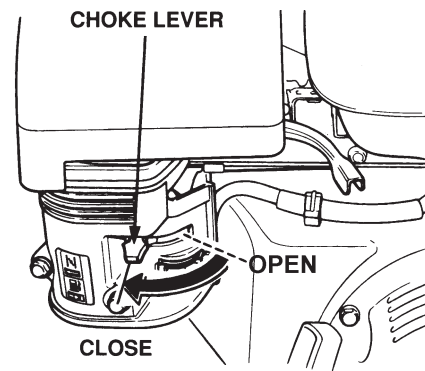

Figure 14. Choke Lever
4. Place the **Choke Lever** (Figure 14) in the "**CLOSED**" position.
- If the engine has started, slowly return the choke lever (Figure 14) to the **"OPEN"** position. If the engine has not started repeat steps 1 through 6.